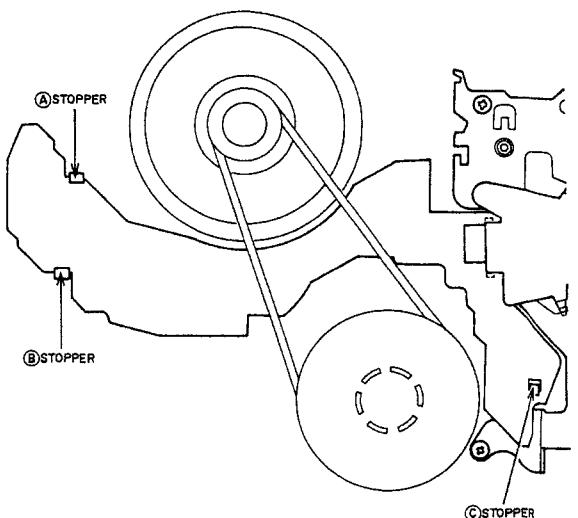

Fig. 3-6
3) Release the Ⓐ, Ⓑ and Ⓒ stoppers as shown in Fig. 3-6. Then remove the SENSOR PCB.